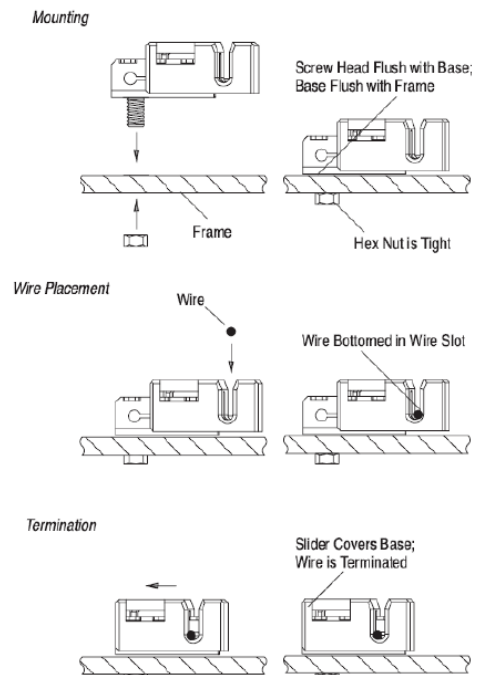

Figure 3 (Tyco Electronics Corp. 1954381-2)
(2) Grounding Using Existing Ground Hole (Figure 3, 1954381-2)